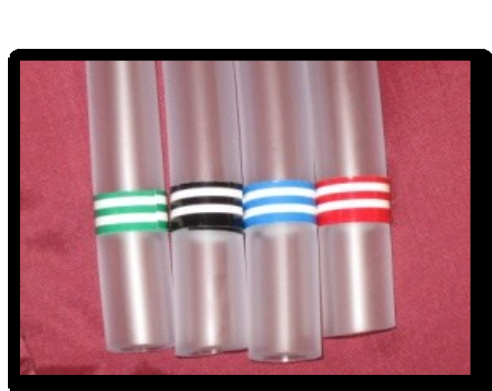

Figure 15A: Color-Coding of CPR Hoses
5. Obtain a new hose of the same length and apply appropriate color code label to one end of the hose (See **Figure 15A**). Labels and hoses can be purchased through Tridien.